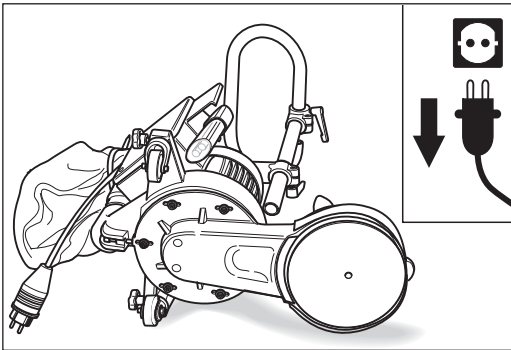

Fig. 77 Place the UNICO down on the **left-hand** side only.
**Always** set the UNICO down on the **left-hand** side (Fig. 77)! This will prevent damage to the floor.